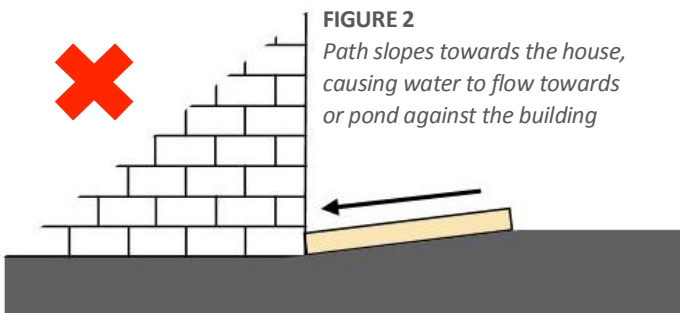

FIGURE 2
- Lay paving around the building without sufficient slope away from the building (Figure 2). In large paved areas a drain and stormwater collection pit may be necessary.